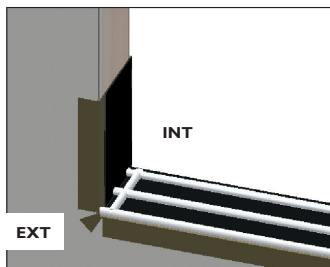

FIG. 19
- b. Apply a 1/4" continuous bead of silicone 1/2" from each side of the rough opening. The bead will run the entire depth of the jamb starting at the face of the wall. (Fig. 19)